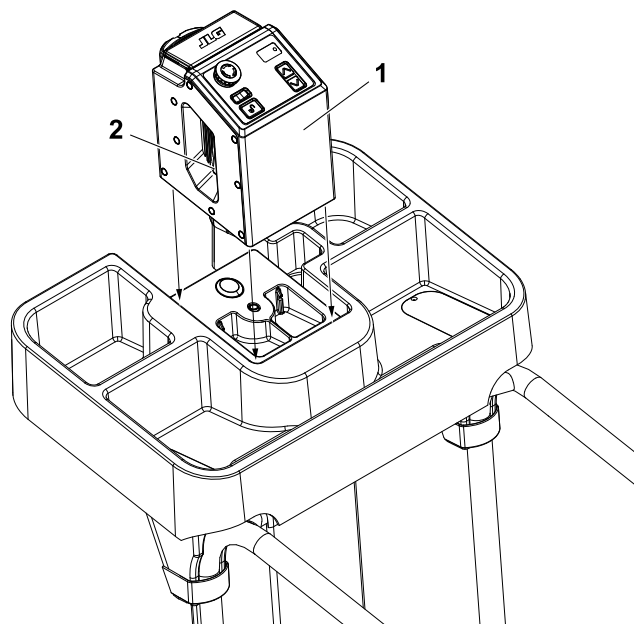
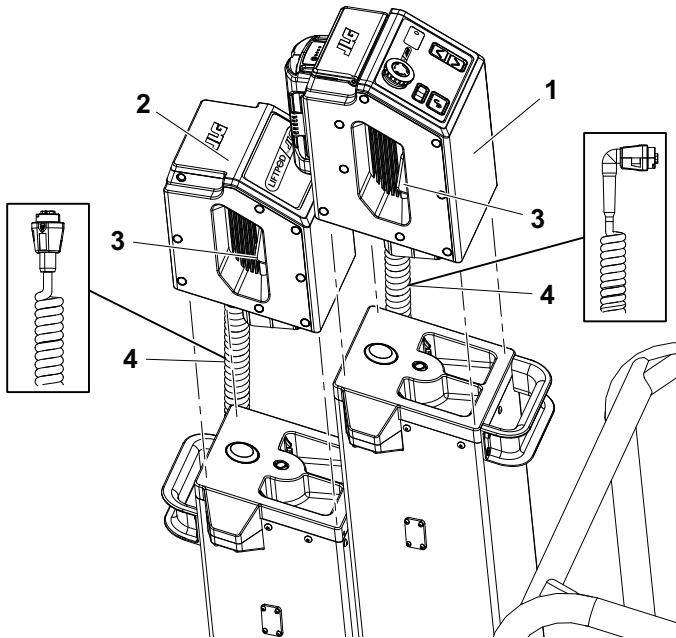

Figure 3-13. Powerpack Control Unit Installation (FT70)
Figure 3-14. Powerpack Installation (FT140)
(See Figure 3-13. and Figure 3-14. for installation, also Section 3.6 on page 3-22 for complete description of PowerPack)
1. To install the Control Unit (1) onto the top of the mast; grasp with both hands and depress the latch handles (2) on each side of the Control Unit.
2. Place the Control Unit (1) onto the top of the mast assembly and align the driveshaft bit (hexagonal), lower down until it is fully seated on the mast top cap, release the latch handles on each side.
NOTE: (See Figure 3-14.) The FT140 machines use a Control Unit (1) for the FT70 mast assembly, and Drive Unit (2) for the FT140 mast assembly. It is recommended to install the FT140 mast Drive Unit first without the tool tray installed.
Mount the Drive Unit and Control Unit same as step 1 and 2 above. Connect the Control Unit to the Drive Unit using the supplied connecting cable (item 4 - Figure 3-14.). Each end is connected with a twist-lock plug, push in and turn till tight.